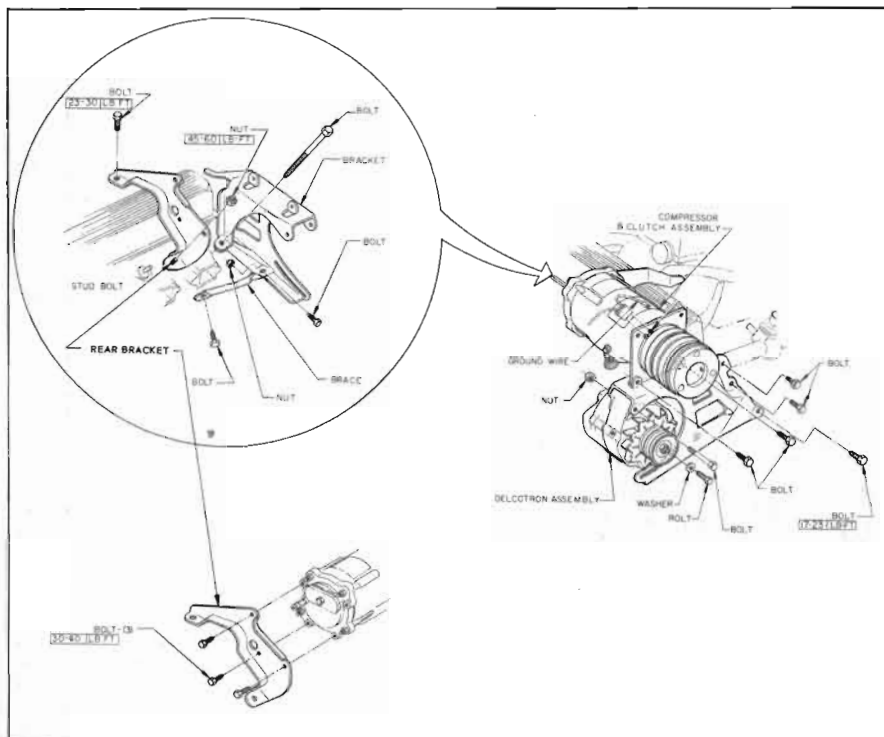

Figure 13-137—Installation of Compressor
5. Remove two (2) bolts from front of compressor and three (3) from rear bracket and lift out compressor. See Figure 13-137.